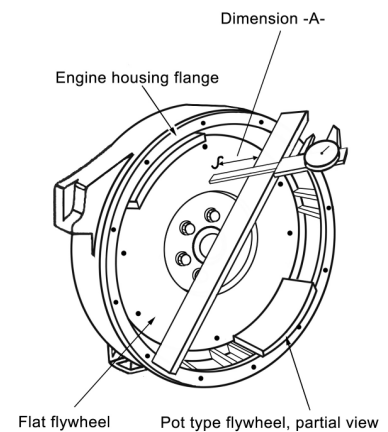

Figure 1
1. With the flywheel mounted to the engine. Place a straight edge or machinist ruler across the engine housing flange. Pot-type flywheels may extend past the engine flange (**See Figure 1**). If so, proceed to step 2b.